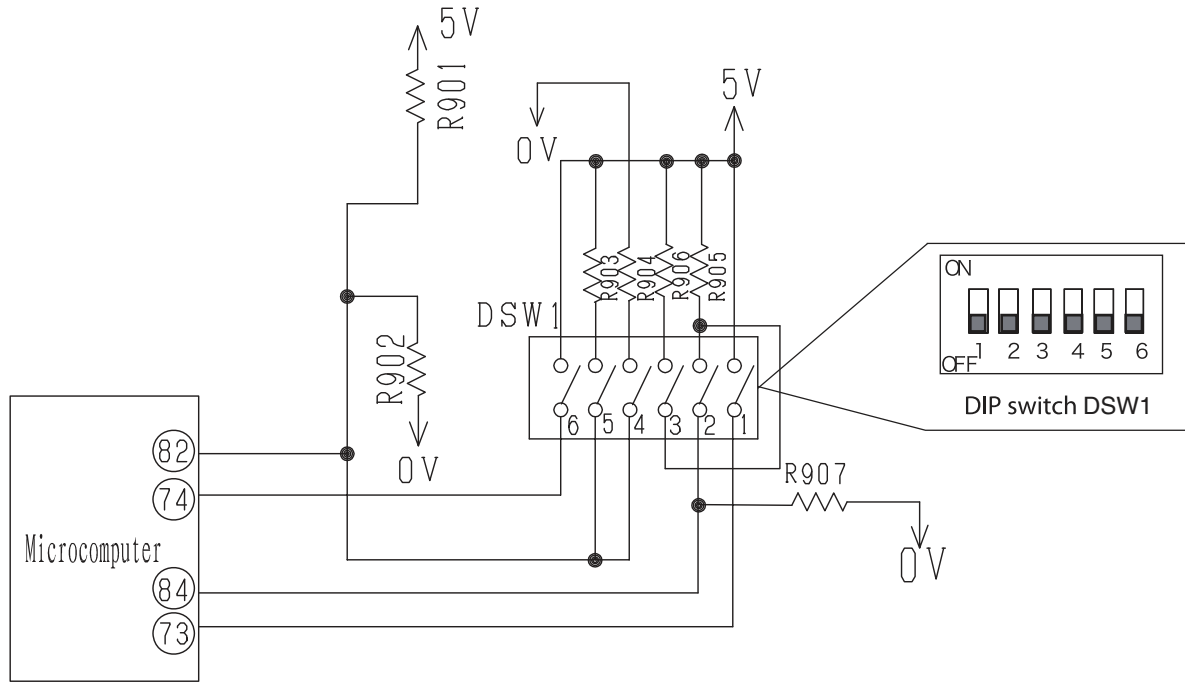

Fig.10-1 Dip switch Circuit
- Fig.10-1 shows the dip switch circuit; the table shown in Fig.10-2 are function and setting position from ① – ⑥ of the switch no.